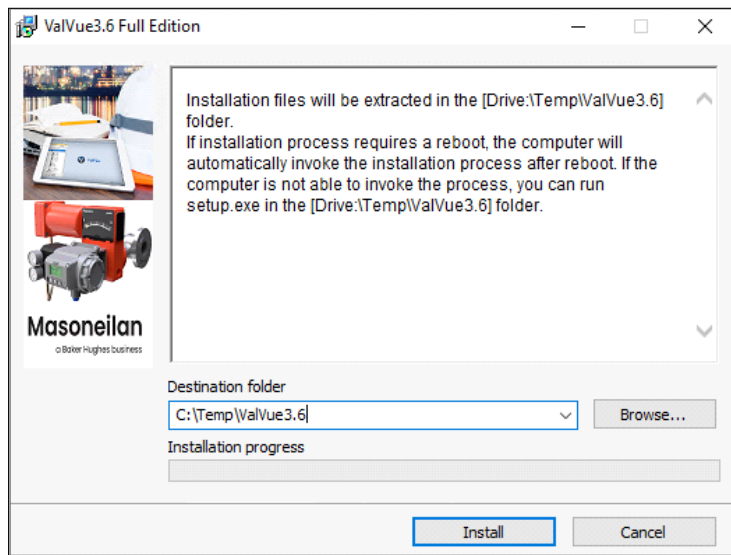

Figure 13 Install Unzip
1. Double-click **ValVue3.xFullEditionInstaller.exe** and Figure 13 appears.